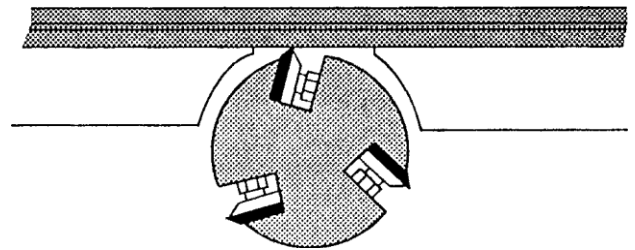

FIGURE 21
2. Place a metal straightedge across both tables as shown in Figure 21, and make sure both tables are set to the exact height of the high point of the knives.